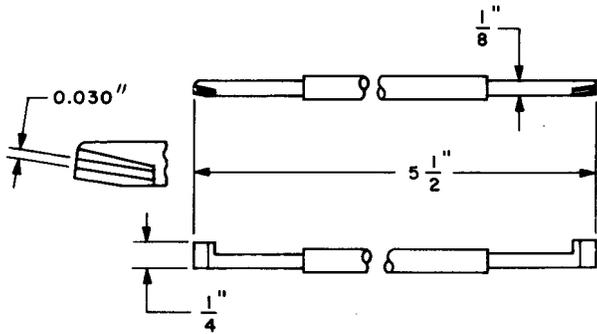

Fig. 13—268 Adjuster Tool
2.13 **268:** The 268 tool (Fig. 13) is a spring adjuster used in adjusting contact springs on Stromberg Carlson relays.